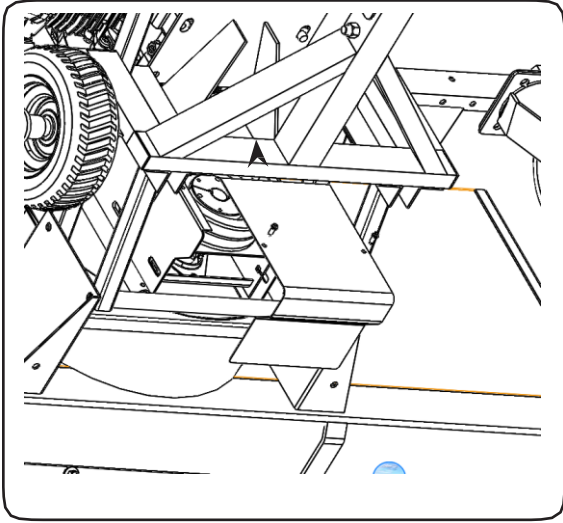

Figure4-1
1. Unscrew two flange tapping bolts and remove the rear cover, as shown in figure 4-1.